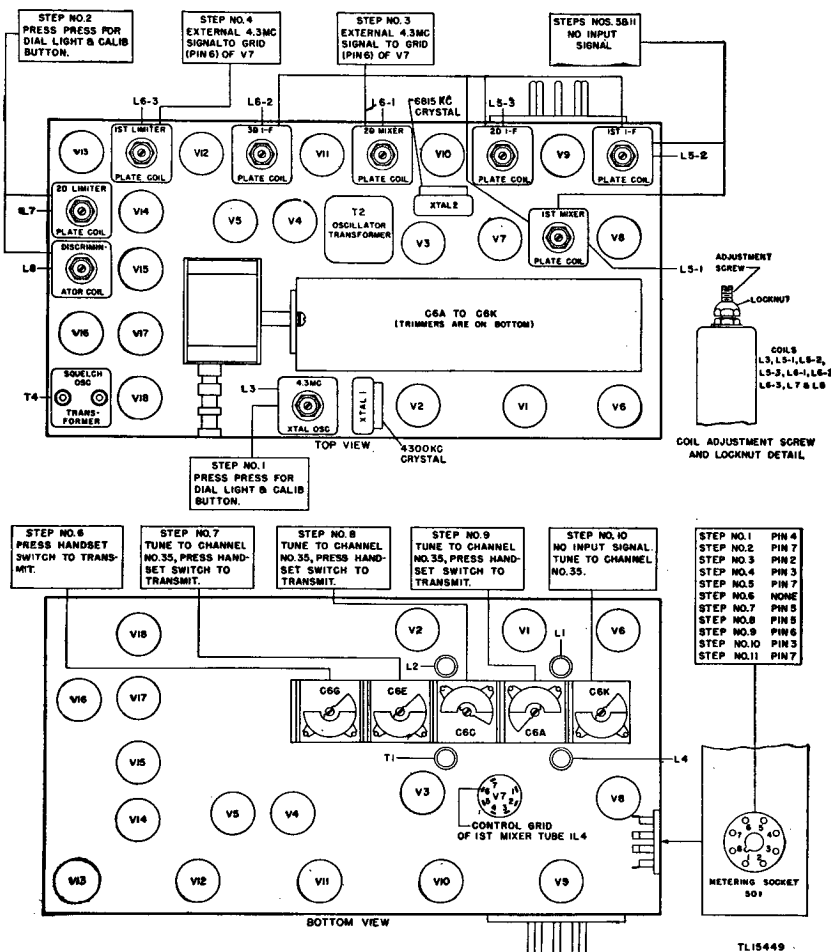

Figure 87. Radio Receiver and Transmitter BC-1000-A, location of adjustments used in alignment.
a. *DETAILS IN TEXT*. Thorough study of the preceding text which describes in detail how to align Radio Receiver and Transmitter BC-1000-A in three ways is necessary before the alignment can be made properly. The alignment chart (table XVII) is intended as a handy outline guide to the step-by-step procedures and may be used with any of the three methods of alignment. Location of adjustments used in alignment is shown in figure 87